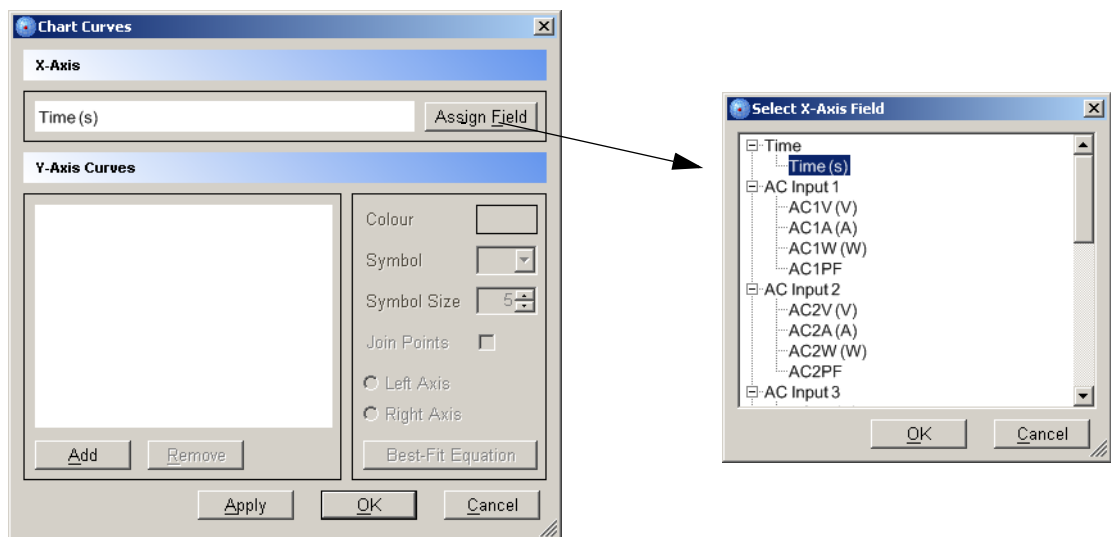

Figure 38 Chart Curves and the Select X-Axis Field Dialogue Boxes
2. Click on the 'Display Chart' Toolbar button. A 'Chart Curves' Dialogue Box will appear (see Figure 38).
3. Click on the 'Assign Field' button. A new smaller 'Select x-axis Field' Dialogue Box will appear (see Figure 38). Use this box to choose the data that will make the x-axis (horizontal axis) of your chart, then click on the 'OK' button. Note that you can only have one x-axis on your chart.